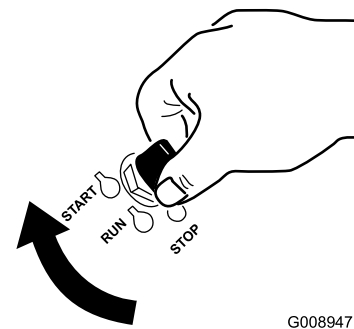

Figure 17
1. Turn the ignition key to the Start position (Figure 17). When the engine starts, release the key.
7. Turn the ignition key to the Start position (Figure 17). When the engine starts, release the key.